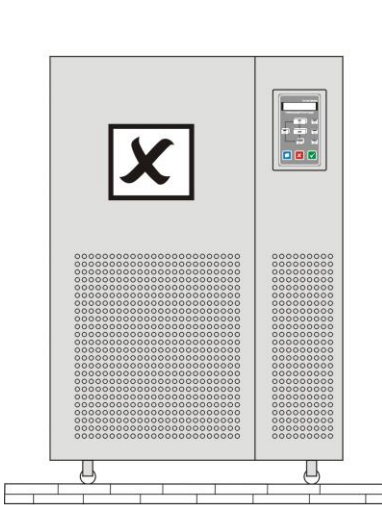

Figure 7
4. Please keep UPS away from fire source and high temperature avoiding over-high temperature. (Figure 7)